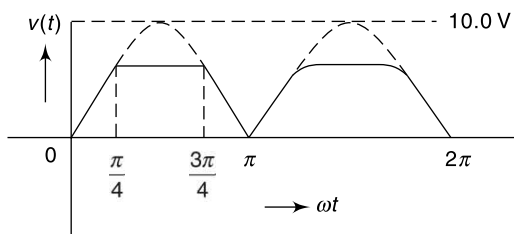

Fig. 5.74 Waveform for Ex. 5.118
5.118 Obtain the rms value of the clipped waveform shown in the Fig. 5.74